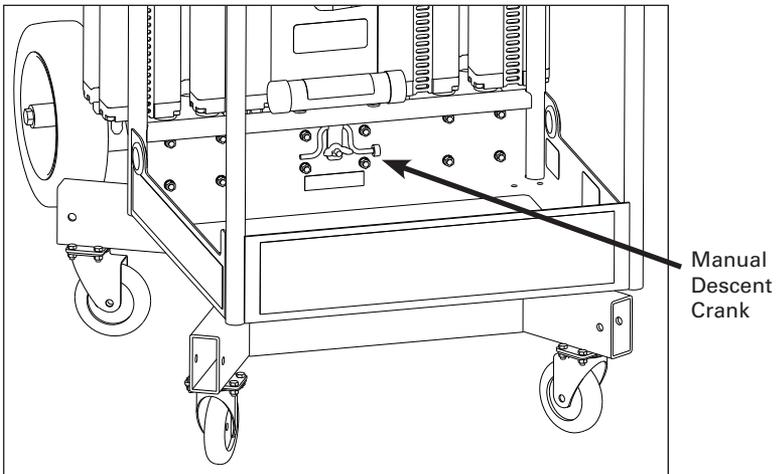

Figure 2-5 - Location of Manual Decent Crank
8. **Manual Decent Crank** - Check to be sure it is present and securely attached (See Fig. 2.5)